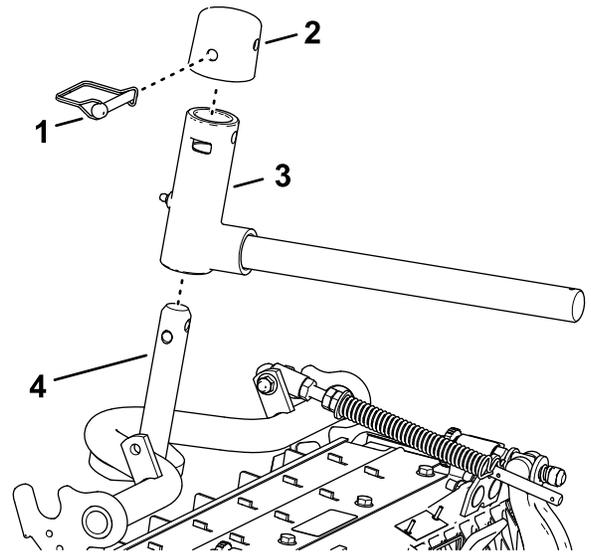

**Figure 25**
1. Remove the lynch pin and washer securing the pivot yoke to the lift arm and slide the shaft out of the lift arm (Figure 25).